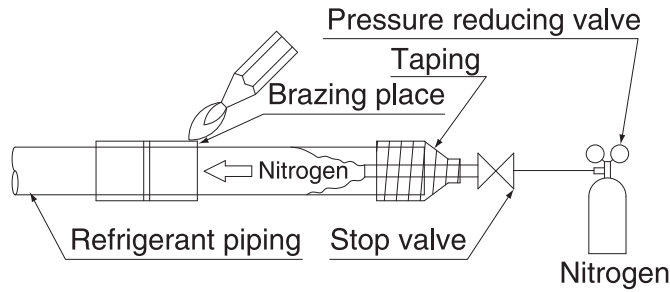

Fig. 17
- Wrap the sealing material (Medium-1, 2) (9) (10) around the joint insulating for fitting (6) and (7) (flare nut section), both the gas and liquid piping.
- Make sure to bring the seam of joint insulating for fitting (6) and (7) to the top.
- Before brazing refrigerant piping, have nitrogen flow through the refrigerant piping and substitute air with nitrogen (NOTE 1) **(Refer to Fig. 17)**. Then, carry out brazing (NOTE 2). After all the brazing works are finished, carry out flare connection with the indoor unit. **(Refer to Fig. 16)**